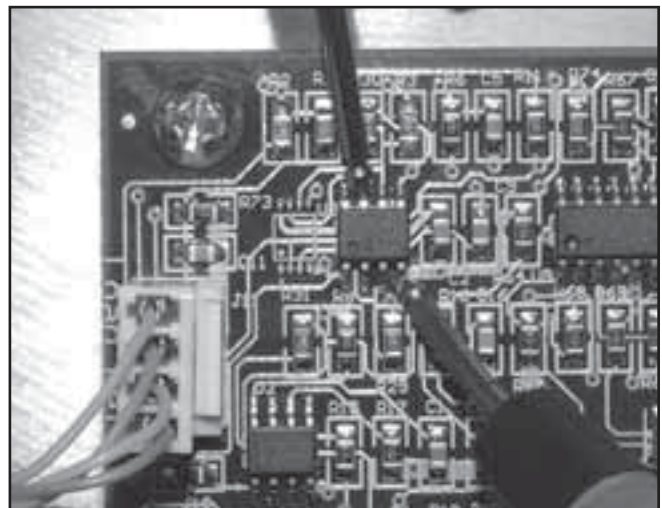

FIGURE 5.25
9. Locate U3 on Motor Control Board. Connect the Red (+) Multimeter Lead to Pin 7 of U3 and the Black (-) Lead to Pin 4 of U3. See Figure 5.25.